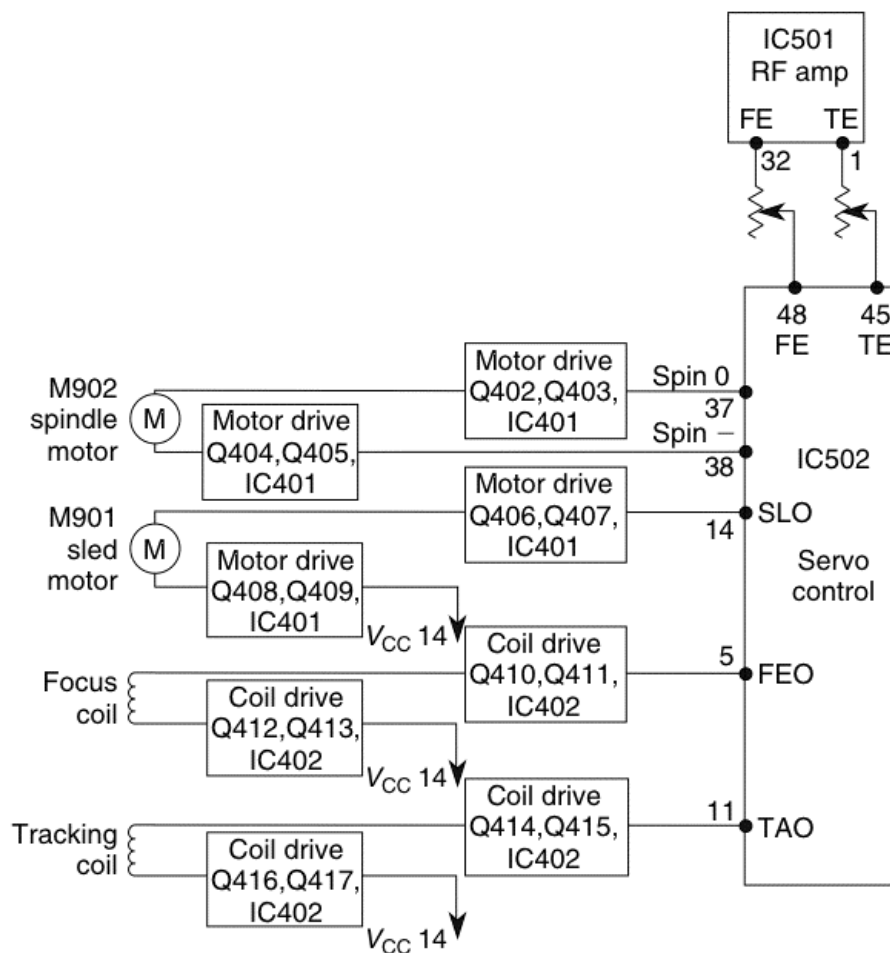

FIGURE 26-6 IC502 controls the spindle and SLED motors, focus and tracking coils, through motor-drive transistors and ICs.
Denon DCC-9770 auto CD servo circuits The tracking-error (TE) signal taken from pin 1 of RF amp IC501 through the tracking gains control to pin 45 on servo IC502. The tracking-coil output (TAO) is fed from pin 11 of IC502 to coil drive IC402, Q414, Q415, Q416, and Q417 to the tracking coil (Fig. 26-6). Notice that two sets of transistors drive the negative and positive leads of the tracking coil.